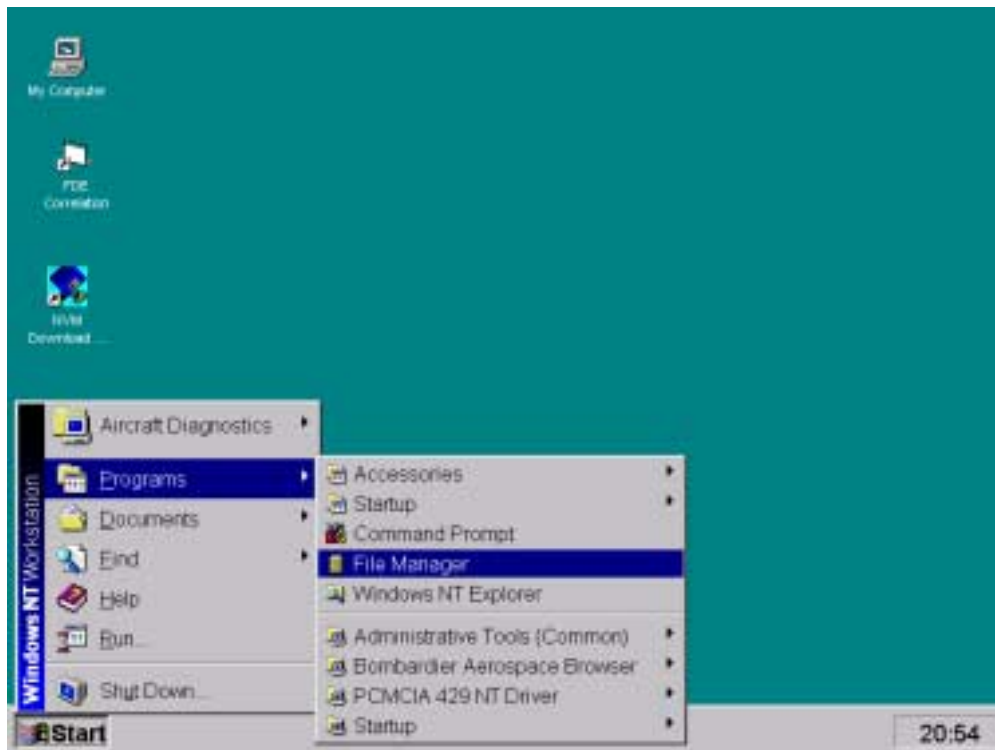

Figure 1 Start - Programs - File Manager
2. On the task bar, select "Start - Programs - File Manager". See Figure 1.